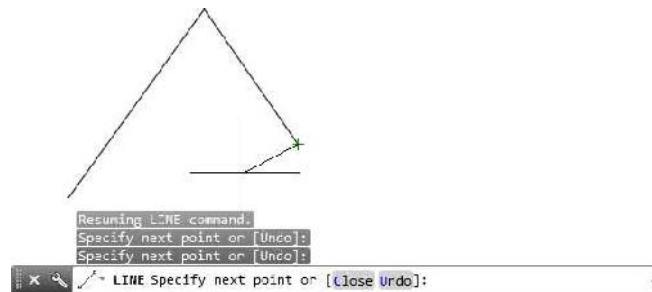

FIGURE 2.7: Drawing several line segments
6. Continue picking points and adding lines as you move the cursor around the screen (see Figure 2.7).